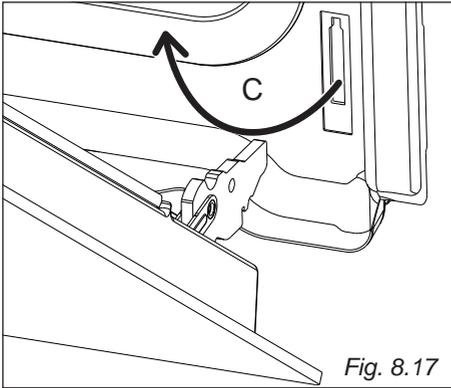

Fig. 8.17
- Withdraw the hinge hooks from their location following arrow "C" (fig. 8.17).